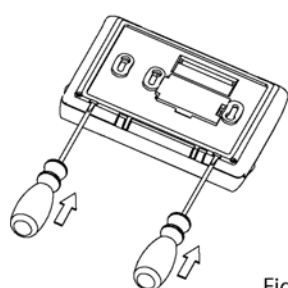

Fig. 1
- Detach the brackets as shown in the drawing (see fig. 1)